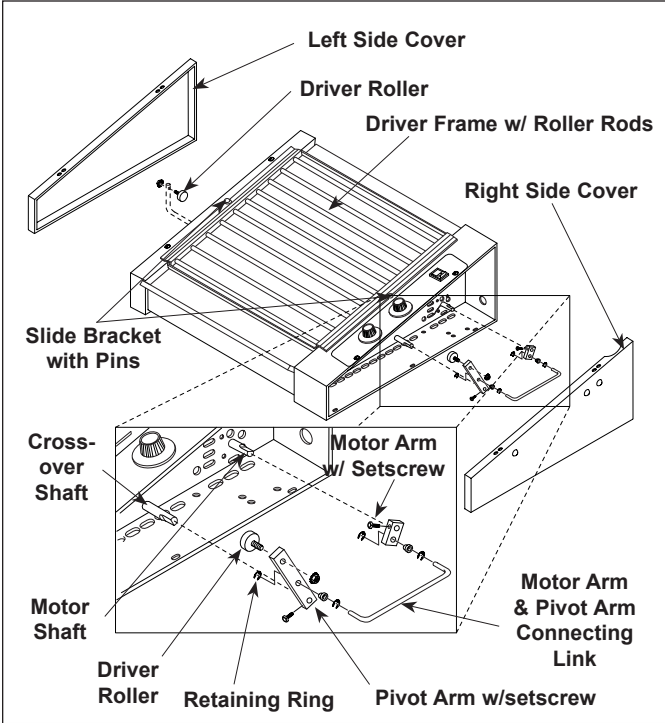

Figure 4. Drive Components
1. Remove the Driver Frame (Figure 4) and soak in hot detergent water and clean using a soft brush. Rinse in clear water and dry with a clean, dry towel. **Verify that the Roller Rods rotate easily and have side to side motion by testing them with your fingers.**
4. To remove any gap, loosen the setscrews on the Pivot Arm and Motor Arm (Figure 4).
8. If the Drive Frame still does not move freely, loosen setscrew and remove the Motor Arm (Figure 4) from the Motor Shaft.
Grasp both Slide Bracket Pins (Figure 4) and move them back and forth to try and determine the source of the bind. It may be necessary to adjust the height of the Slide Bracket (Figure 4).